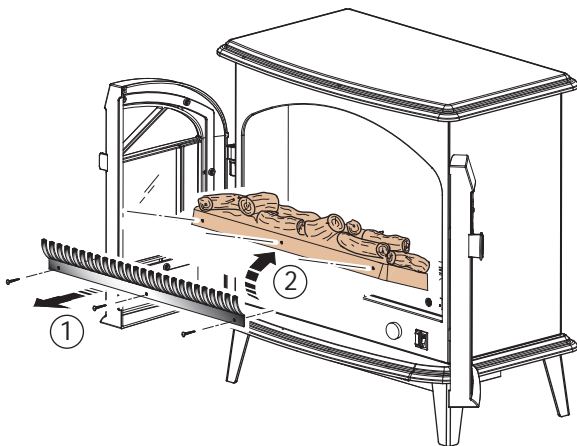

Fig. 6
2. Remove the fret, then tilt and slide out the log effect assy ( see Fig. 6).